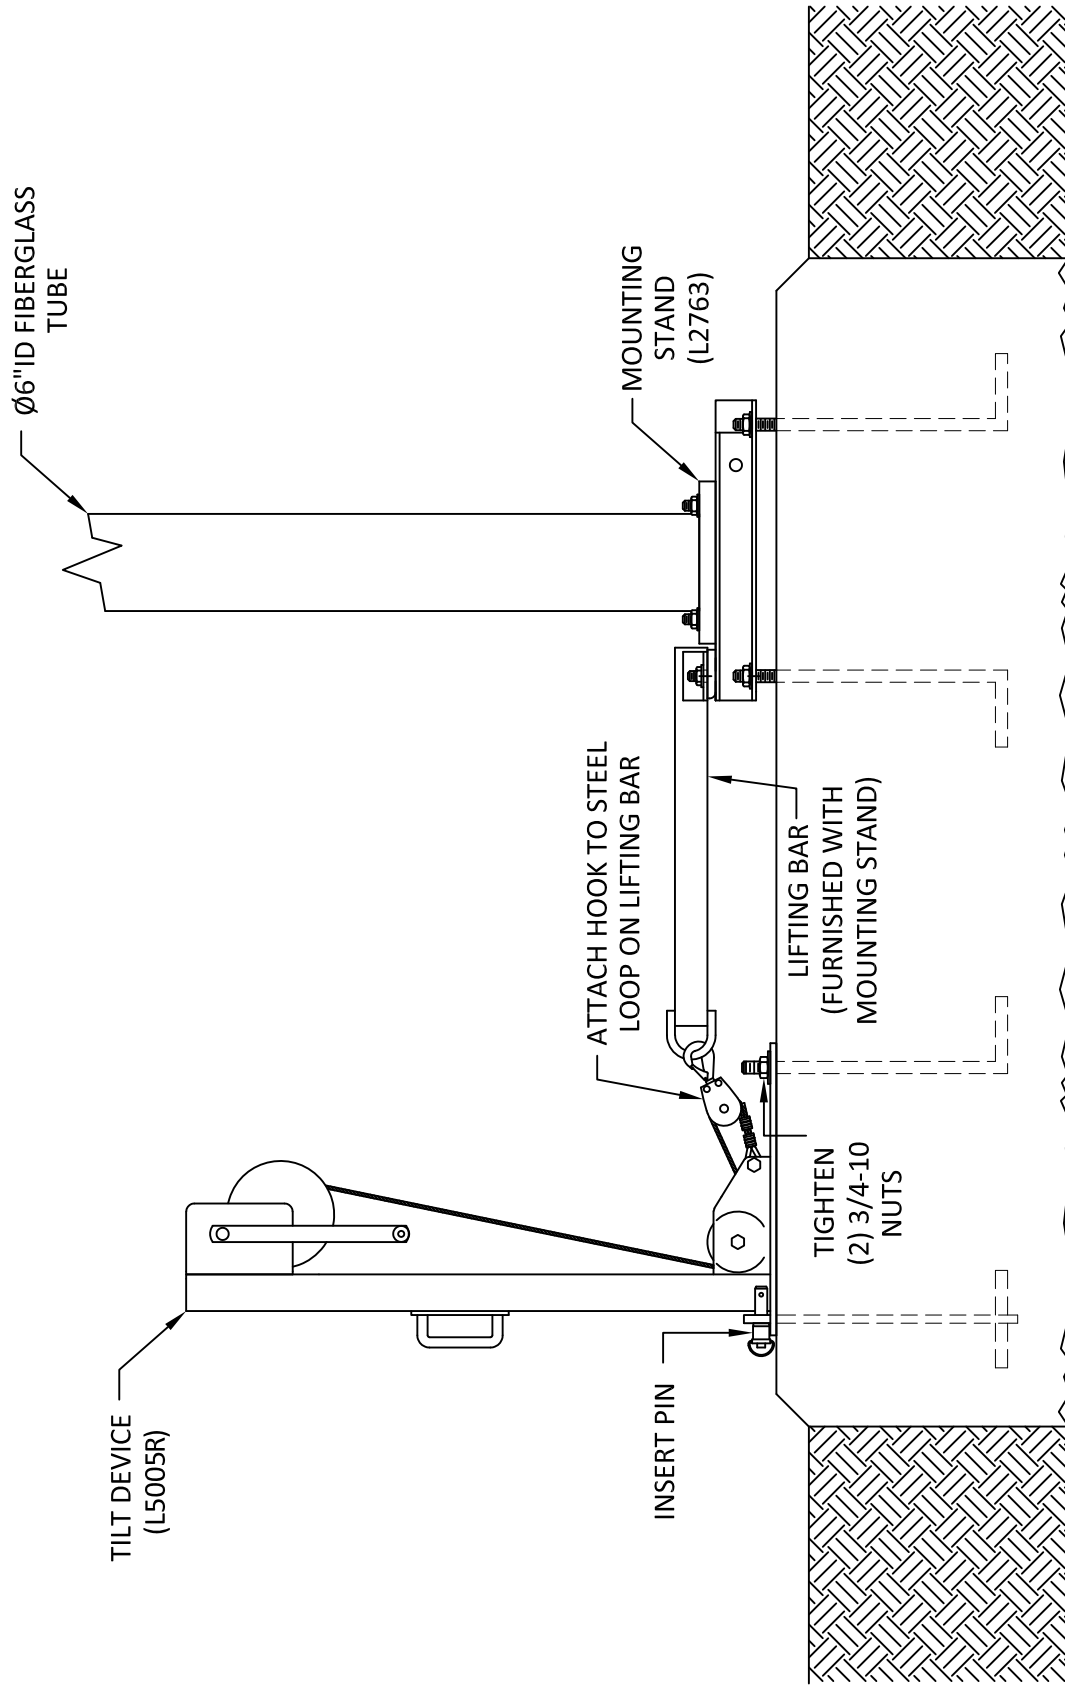

FIG. 3-1
- A. Attach tilt device to concrete pier by sliding it under the nut on the two anchor bolts and over the tab provided in the concrete pier. (See Figure 3-1). Tighten the nuts on the anchor bolts with the 1-1/8" or 1-1/4" open end wrench. Insert the pin, attached to the tilt device, through the hole in the tab. The tilt device should now be solidly secured to the concrete pier.
- B. Attach the cable hook from the tilt device to the steel loop on the lifting bar of the MG-20 mounting stand assembly. Turn handle of winch to play out enough cable to reach lifting bar shackle. After the cable is attached to the lifting bar, take up cable slack with winch. (See Figure 3-1)